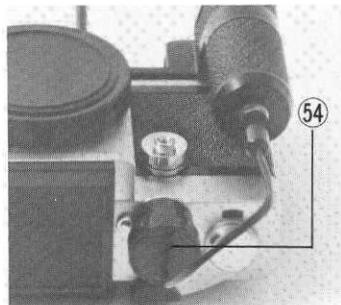

Fig. 73
- (a) Screw in the solenoid release54 . Connect the cord which comes from solenoid release with the auto winder (See Fig. 73)